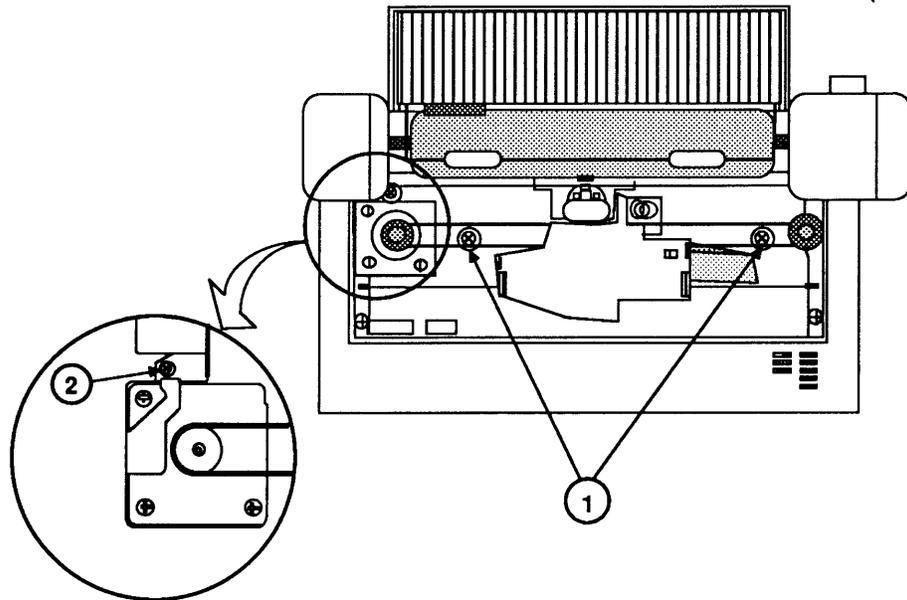

FIGURE 53
6. Replace the two large screws (Figure 53, #1) that hold the frame to the plastic portion of the bottom cover.
7. If the screw exists (it doesn't on earlier models), replace the frame screw (Figure 53, #2) between the stepper motor and carrier motor housing.